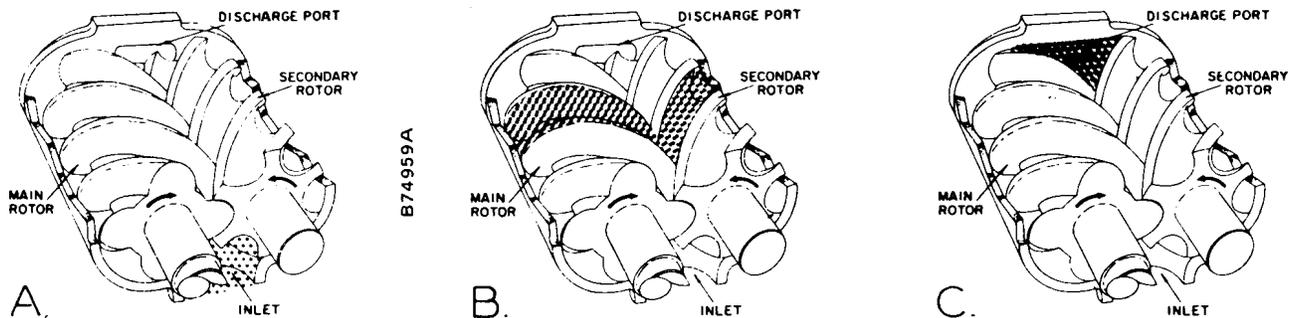

FIGURE 1-1 – TYPICAL COMPRESSION CYCLE
COMPRESSION PRINCIPLE (FIGURE 1-1) – Compression is accomplished by the main and secondary rotors synchronously meshing in a one-piece cylinder. The main rotor has four (4) helical lobes 90° apart. The secondary rotor has six (6) matching helical grooves 60° apart to allow meshing with main rotor lobes.
The air inlet port is located on top of the compressor cylinder near the suction end. The discharge port is at the bottom on the opposite end of the compressor cylinder. FIGURE 1-1 is an inverted view to show inlet and discharge ports. The compression cycle begins as rotors unmesh at the inlet port and air is drawn into the cavity between the main rotor lobes and secondary rotor grooves (A). When the rotors pass the inlet port cutoff, air is trapped in the interlobe cavity and flows axially with the meshing rotors (B). As meshing continues, more of the main rotor lobe enters the secondary rotor groove, normal volume is reduced and pressure increases.